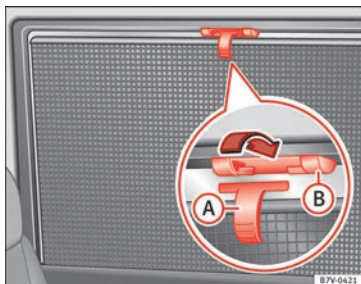

Fig. 142 On the rear right-hand window: sun blind
- Pull the sun blind by the handle »» Fig. 142 A up to the top.
- To put the sun blind away, unhook it at the top and lower by hand »» ①.